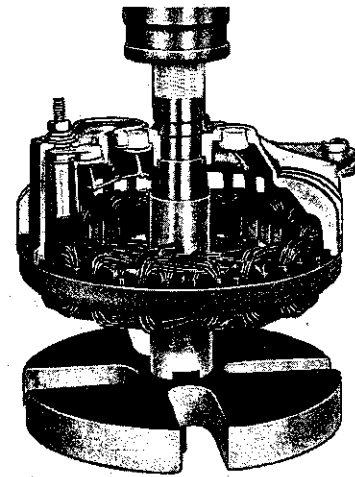

Fig. 34—Installing the Rectifier End Shield Bearing
(5) Support the end shield on Tool C-3925 so that the notch in support tool will clear the raised section of the heat sink and press the bearing into position with Tool SP-3381 (Fig. 34).